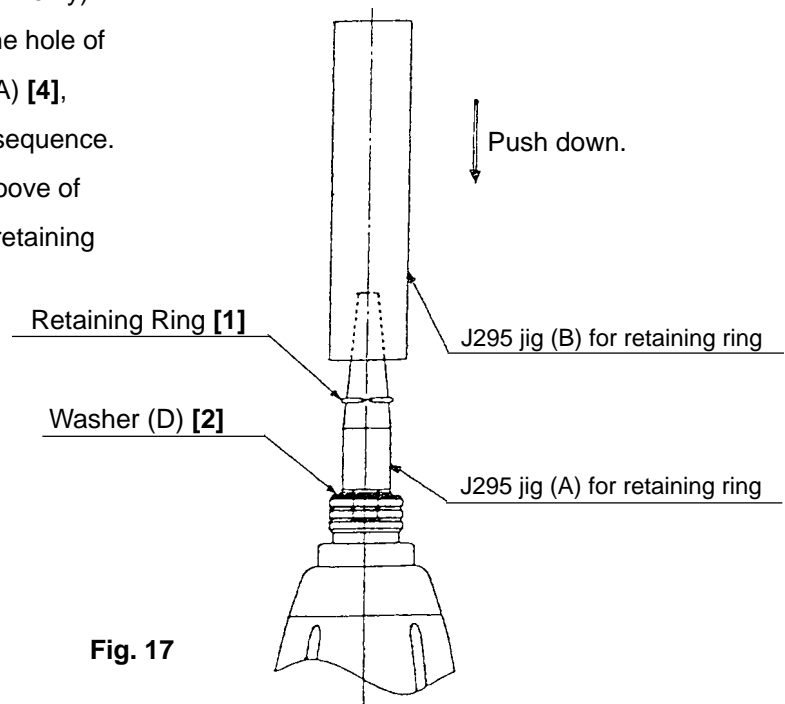

Fig. 17
(6) Mounting Guide Sleeve (A) [4] (WH 12DM only)
Insert the two Steel Balls D3.5 [8] into the hole of Anvil (C) [9]. Mount the Guide Sleeve (A) [4], Guide Spring [3] and Washer (D) [2] in sequence. Mount the Retaining Ring [1] into the groove of anvil using the J295 jigs (A) and (B) for retaining ring as illustrated in Fig. 17.